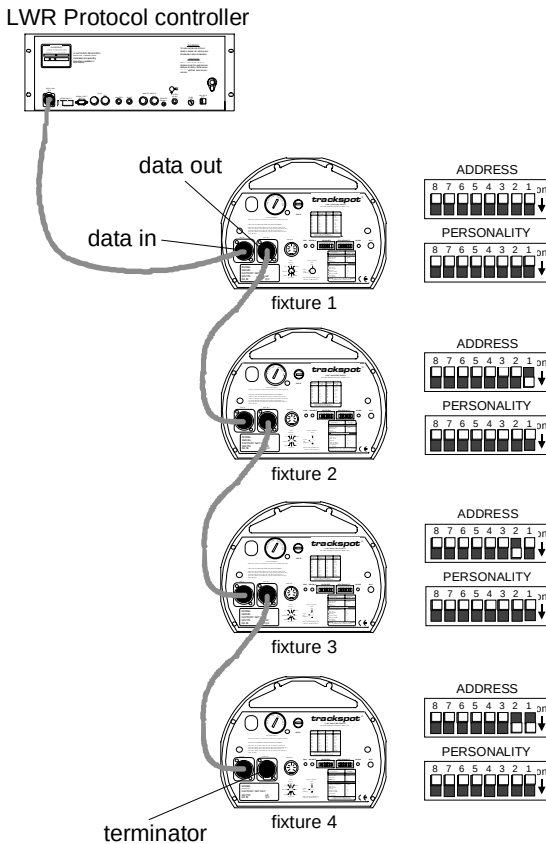

Figure 2-8. Linking fixtures to a LWR protocol controller
2. Link the controller and fixtures together with 3-pin XLR two-conductor data cables. Plug the male end of a data cable into the Data Out connector on the rear panel of the controller. Plug the female end of that data cable into the Data In connector of the first fixture. Continue using this method to link the remainder of the fixtures together (see Figure 2-8).